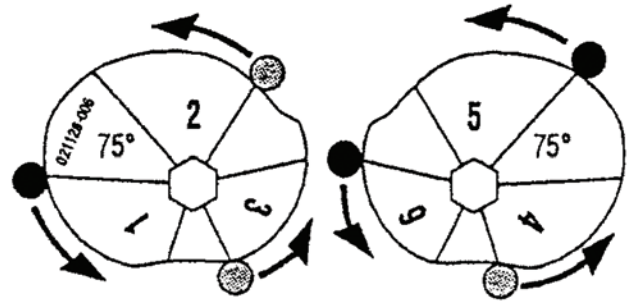

Figure E4 - Position of the cam follower bearing
Select the proper cam lobe for the flow control characteristic required for the valve (see figure E4).
- When the valve plug is in contact with its seat, loosen the screw (160) so that the cam can rotate.
- Select proper cam lobe and origin mark of this lobe referring to figure E4.